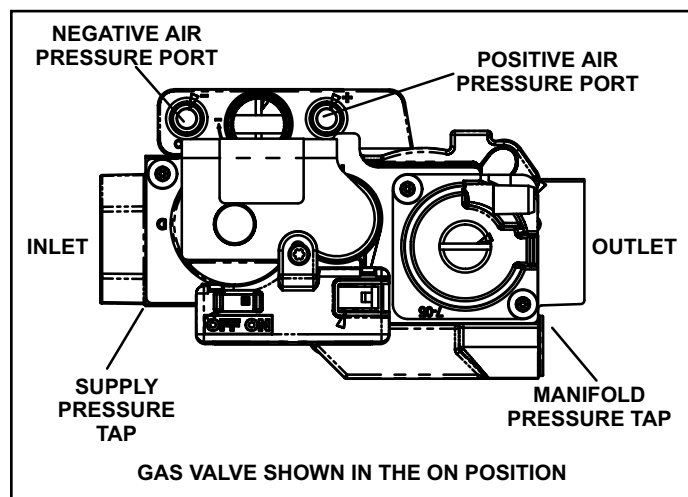

Figure 53. Gas Valve
See Figure 53
- Move gas valve switch to OFF. See Figure 53.
- Move gas valve switch to ON. See Figure 53.